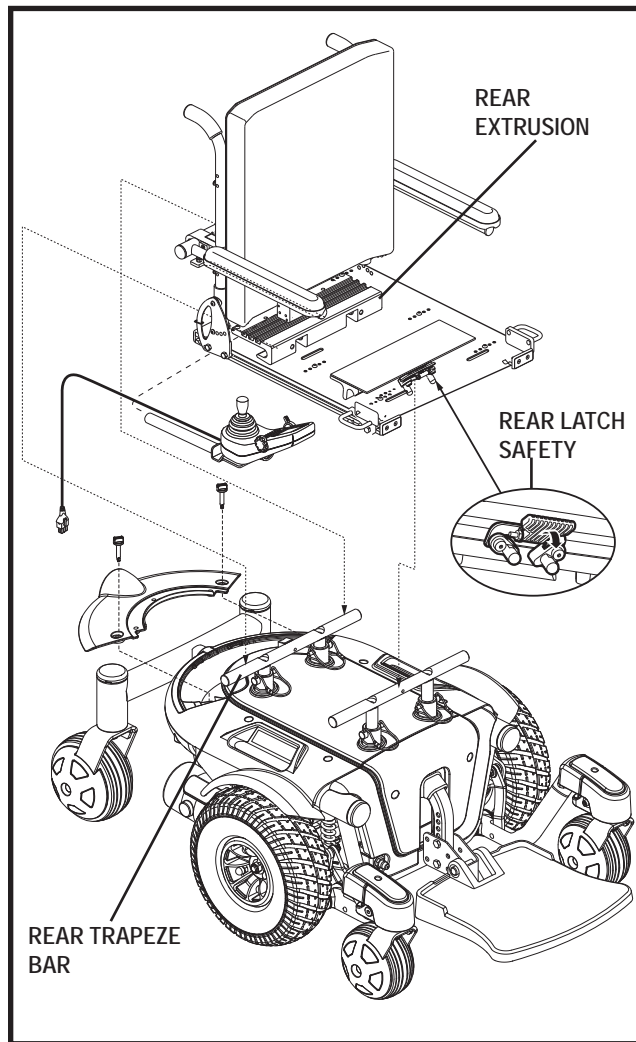

Figure 7. Universal Mounting System
It may be necessary to install the seat either prior to initial operation or after transporting your power chair. Most seats are attached to the power base with the Universal Mounting System (UMS). The UMS consists of universal parts that may be attached to any medium-back or high-back seat, regardless of seat width or seat depth. The two main components are aluminum extrusions mounted to the seat base. These extrusions attach to a pair of trapeze bars that are mounted to the power base. **See figure 7.**
1. Tilt the seat back and slide the rear extrusion onto the rear trapeze bar. **See figure 7.**
3. Flip the seat latch safety down. **See figure 7.**